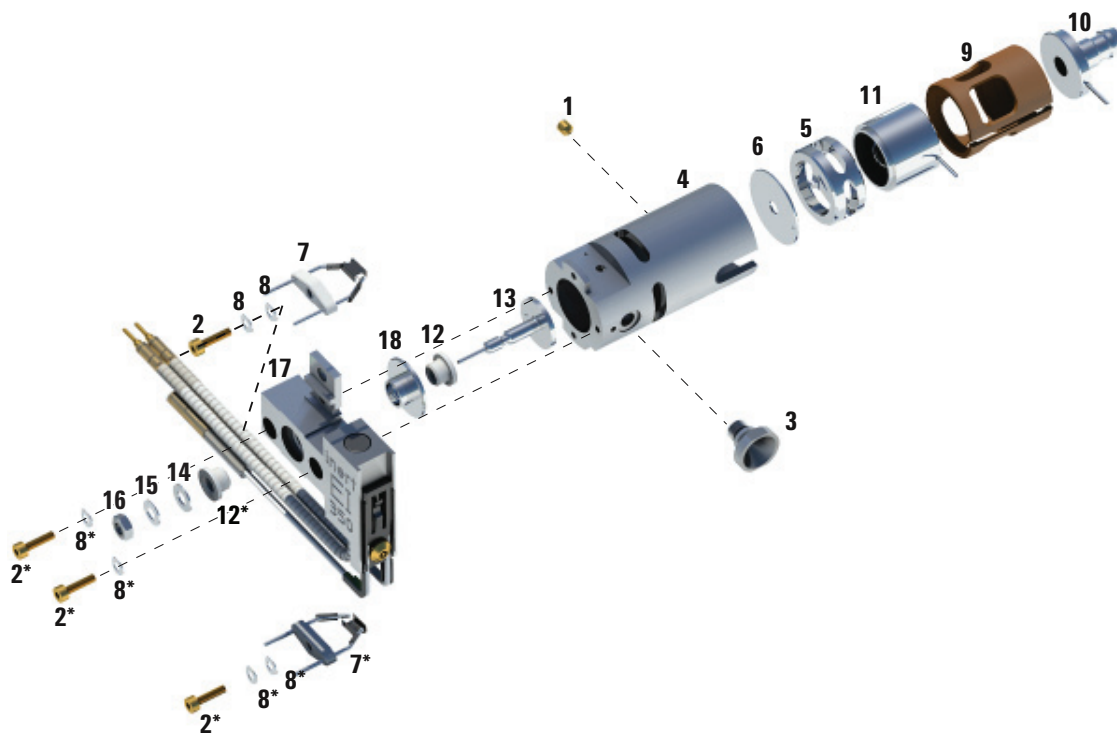

Figure 56. Disassembling the EI SS or Inert source
Refer to the exploded parts view **Figure 56** and the EI SS and EI Inert parts list **Table 19** on page 173 while using this procedure.
**Table 19** Parts list for the EI SS or Inert source (Figure 56)
**Table 19** Parts list for the EI SS or Inert source (Figure 56) (continued)